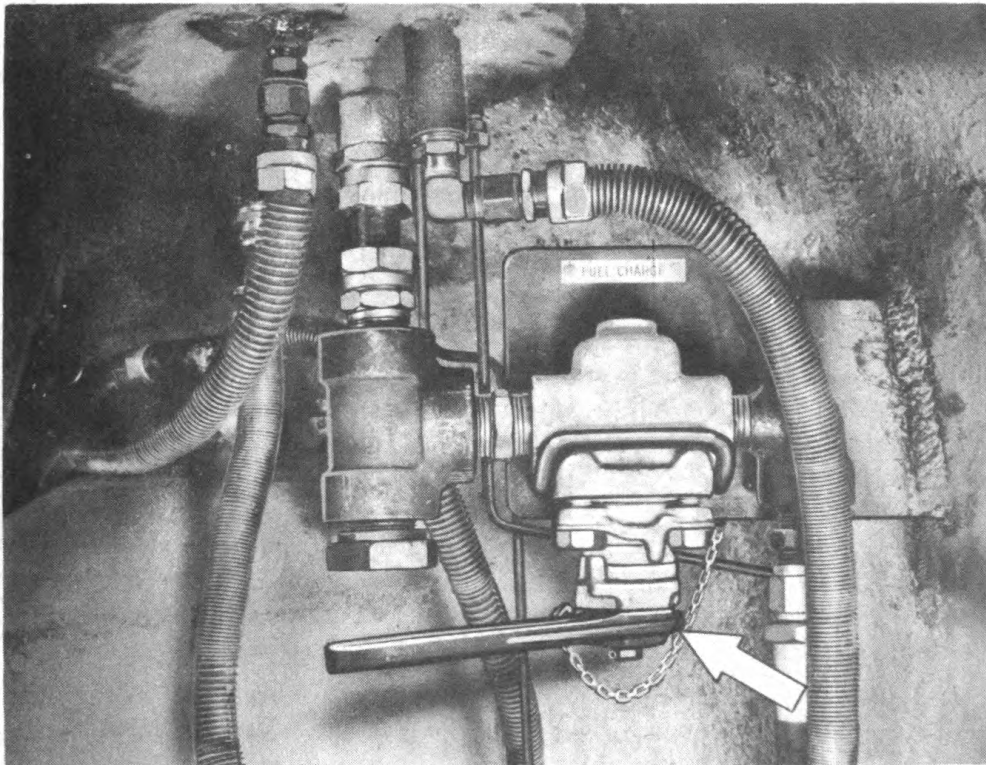

Figure 15—Main fuel filling cock.
(4) *Main fuel filling cock* (fig. 15). This 1-inch cock is opened only when filling the main fuel system with flame thrower fuel. It is located inside and near the roof of the turret on the left side above the basket secondary fuel container. To open cock, turn handle one-quarter turn counterclockwise; to close, turn handle one-quarter turn clockwise.